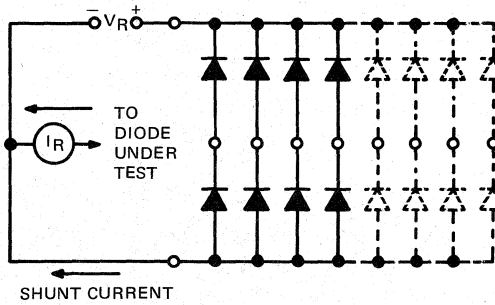

FIGURE 1—TEST CIRCUIT FOR COMMON-CATHODE DIODES
- NOTES: 3. Test conditions and limits apply separately to each of the diodes. The diodes not under test are open-circuited during the measurement of these characteristics except for the measurement of  $I_R$  on arrays having both common-cathode and common-anode diodes (see Figures 1 and 2).
4. For arrays having both common-anode and common-cathode diodes see Figures 1 and 2, Parameter Measurement Information section.